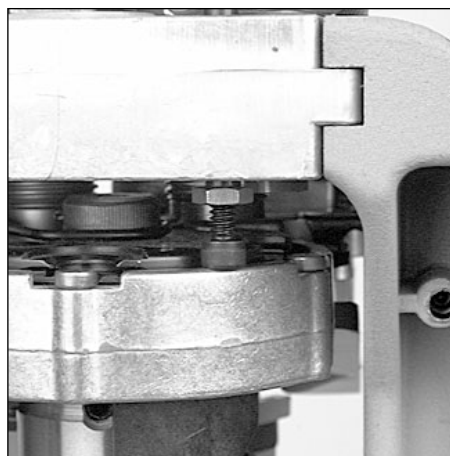

FIG 110
6. **FIG 110** Screw the 10-24 screw and nut fully into the rod. Raise the platform. Unscrew the 10-24 screw until it contacts the edge of the platform **FIG 110**. Lower the platform part way and unscrew the screw (counter-clockwise) until raising the